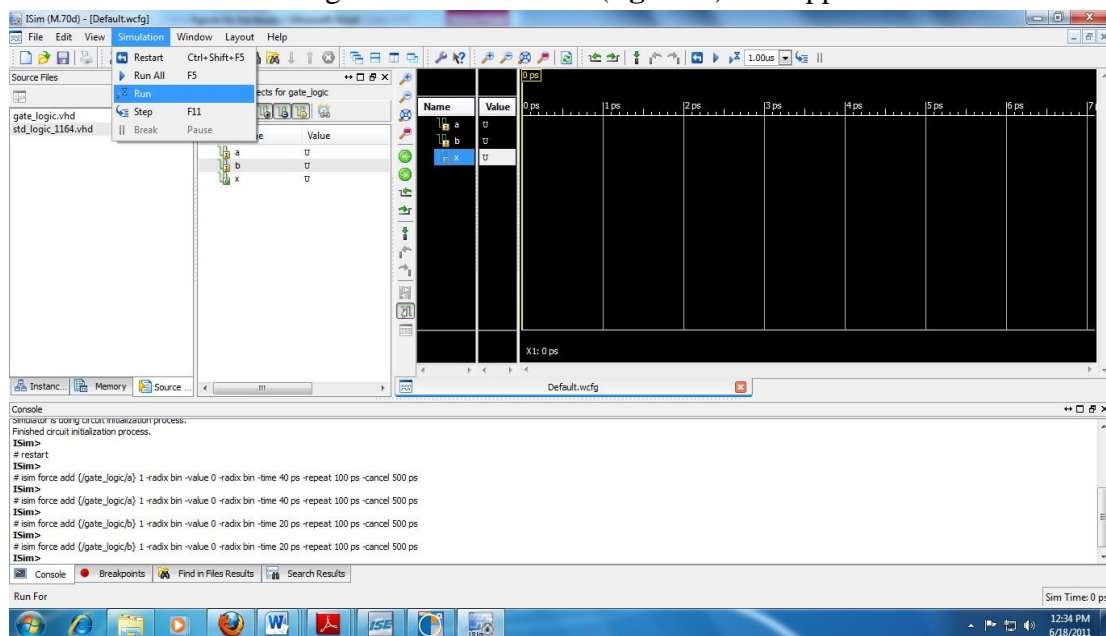

Figure 7: Force the Signal- Run the process
- Select the Simulation from the menu bar and click on Run as shown in following **figure 7**. After click on Run following waveform window (**figure 8**) will appear.